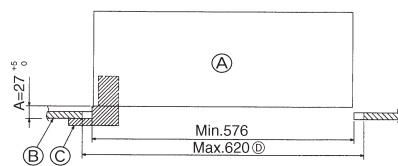

Fig. 5-2
5.2. Preparing to attach the grille (Fig. 5-2)